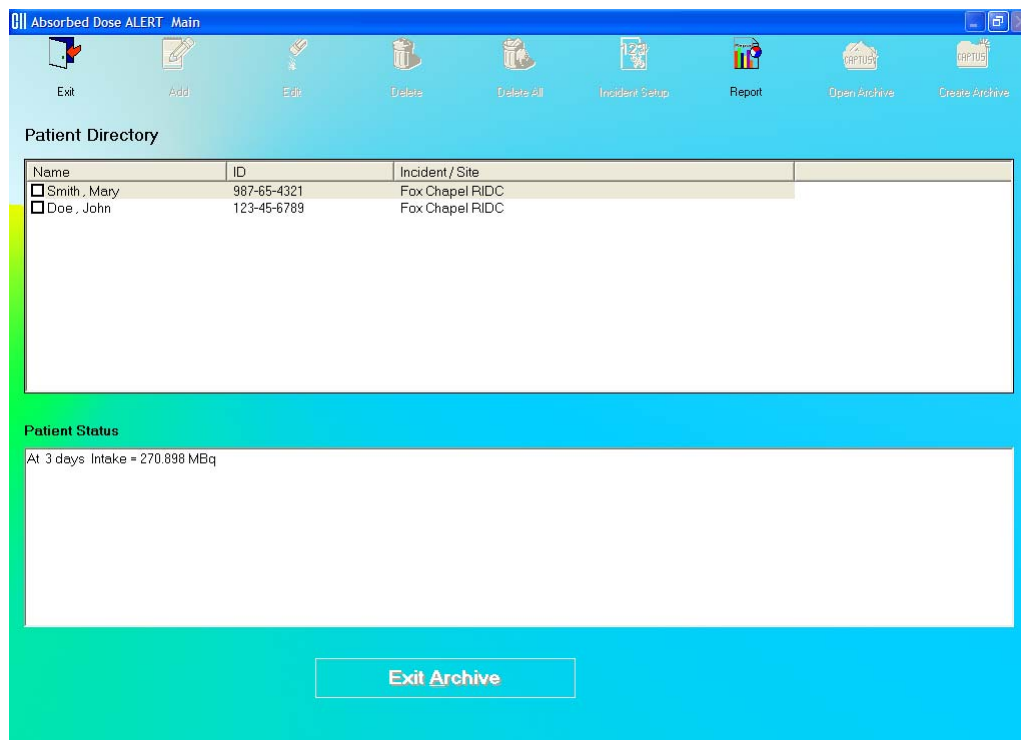

Figure 7-32
- Select the desired database and click the  button. The Absorbed Dose ALERT Main Screen will appear similar to that shown in Figure 7-32 with the patient list from the opened database displayed.